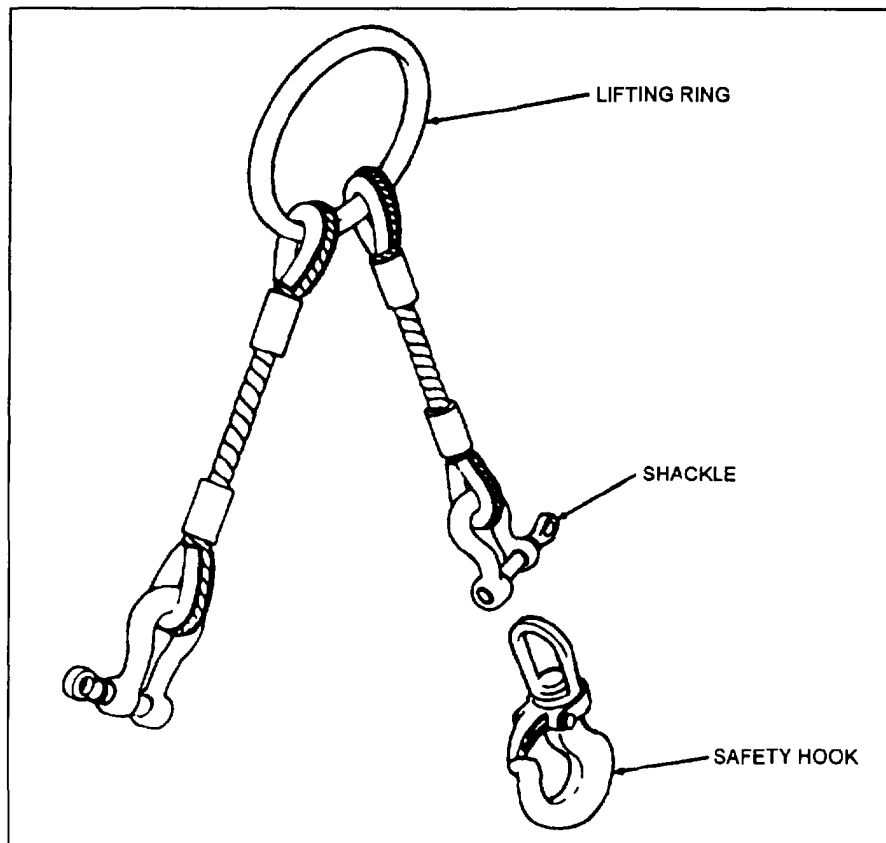

Figure 2-9.—Mk 115 Mod 0 weapons-handling sling.
**MK 115 MOD 0 WEAPONS-HANDLING SLING.**— The Mk 115 Mod 0 weapons-handling sling consists of two 1/2-inch wire ropes, 18 inches long, joined at one end by a 5 1/2-inch steel lifting ring. The other ends of the legs are terminated with shackles. Safety hooks are supplied with the sling. The Mk 115 Mod 0 sling shown in figure 2-9, is used for the general handling of the Mk 56 mine anchor and for hoisting operations when marrying or disassembling the anchor section and the mechanism section of the Mk 56 mine. The sling's lifting capacity is 2,500 pounds.